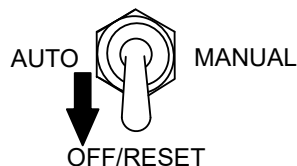

Figure 64. Auto Start/Stop Switch (Off/Reset Position)
5. Place the **Auto Start/Stop switch** (Figure 64) in the **OFF/RESET** position.